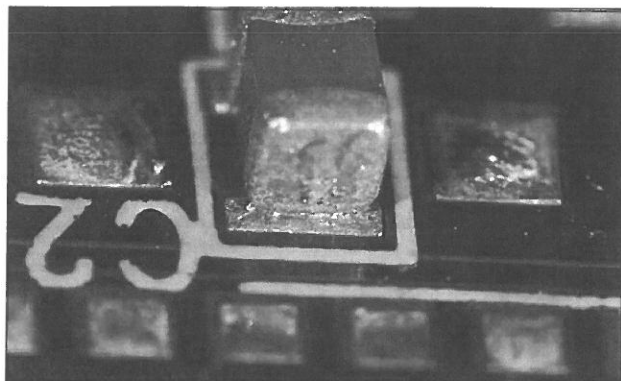

Figure 9-4
- Metallization loss on any termination side (not the end face) on a five-sided termination component greater than 25% of component width (W) or component thickness (T), Figures 9-4 and 9-5.